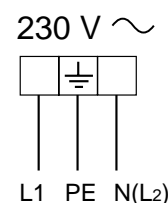

Fig. 6.4
- ✓ The electrical cable must be connected to the terminal board following the diagrams of fig. 6.4.